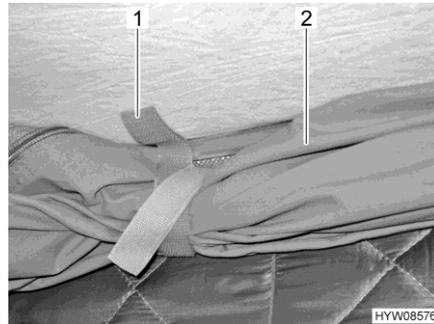

Fig. 25 Retaining clips
- Undo the retaining clips (Fig. 25,1) on the rolled-up canvas (Fig. 25,2).
- Roll up the canvas (Fig. 25,2) and secure with the retaining clips (Fig. 25,1).